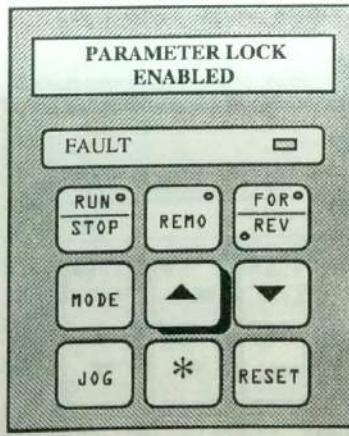

FIG.3.13
- ☞ Use ▲ key to change between parameter enable and disable. (fig. 3.13)